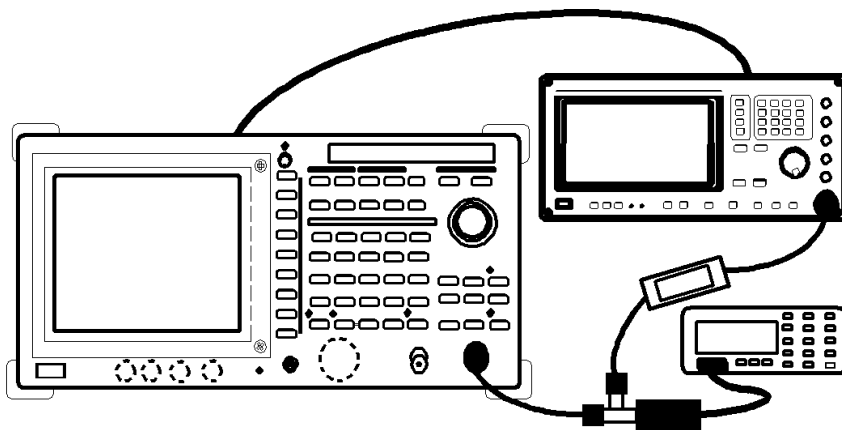

Figure 1-12 Setup for Measuring a Second Harmonics Distortion
3. Connect the signal generator and the power sensor as shown in Figure 1-12.